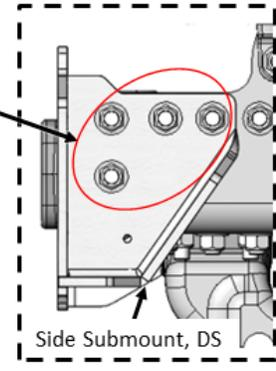

Figure 2d:
4. Install the HERD Side Submount using the OEM Hardware; see Figure 2d. Fully tighten the OEM Hardware. Do this one side at a time. Repeat this step on the other side of the truck.